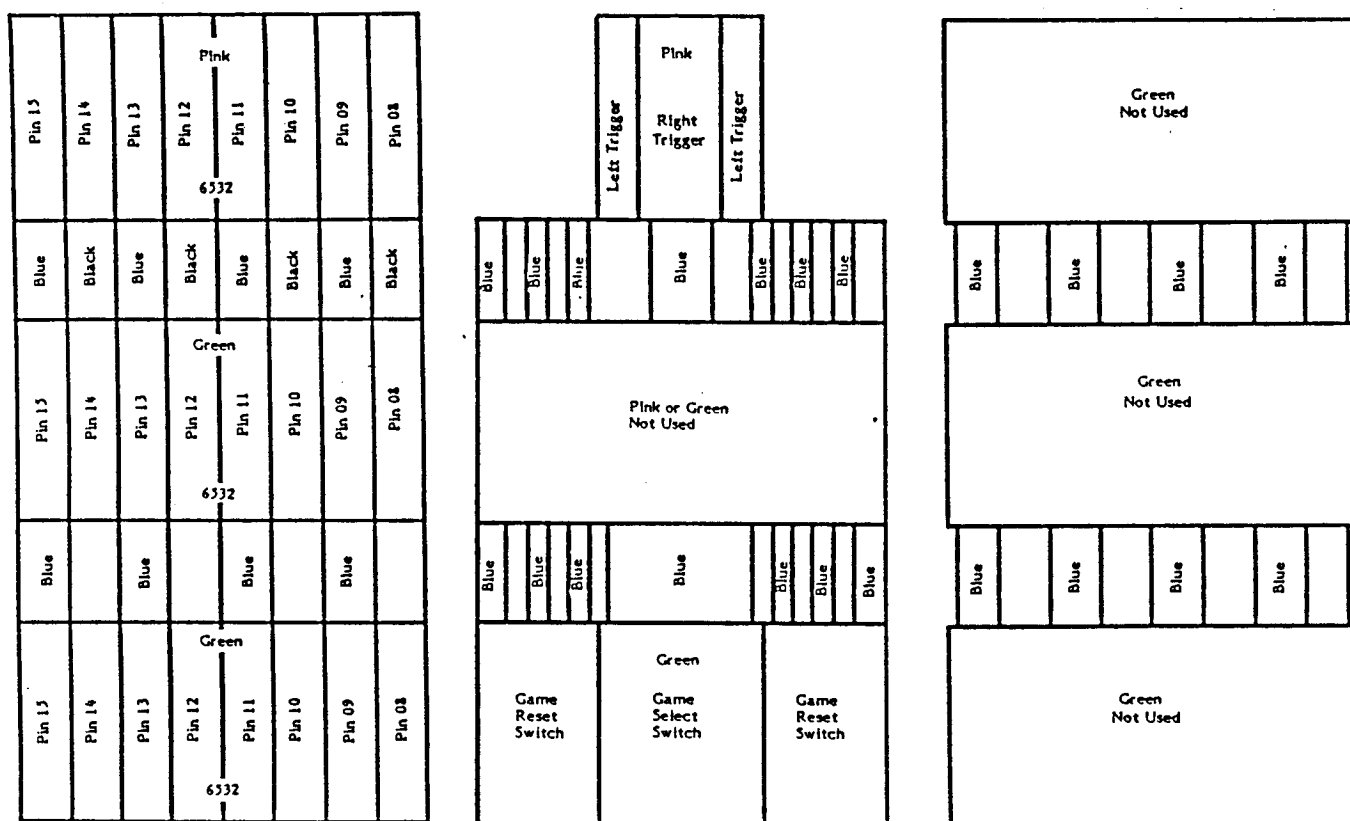

Figure 3-10. Diagnostic Matrix Screen
1. With the blue shorting plugs removed, the matrix of nine rectangles on the screen should look like Figure 3-10.